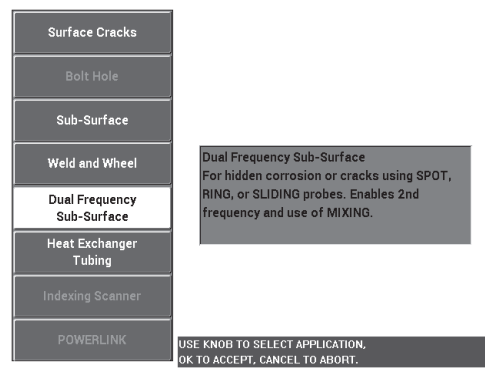

Figure 5-98 The Dual Frequency Sub-Surface application
2. Press the ADV SETUP menu key () once, and then select **APPL SELECT** (A key) to open the application selection menu. Select **Dual Frequency Sub-Surface** with the knob, then press  to accept (see Figure 5-98 on page 197).